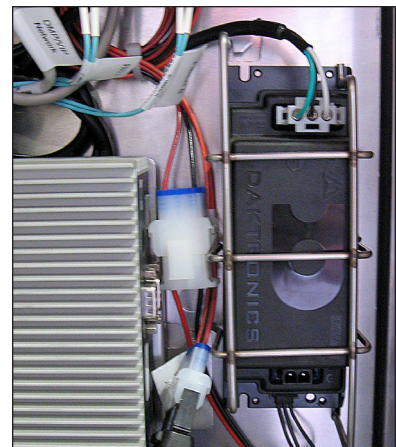

Figure 34: DMP/VIP Power Supply
2. Push down on the top/left leg of the wire form bracket and rotate the power supply clockwise. Refer to **Figure 34**.